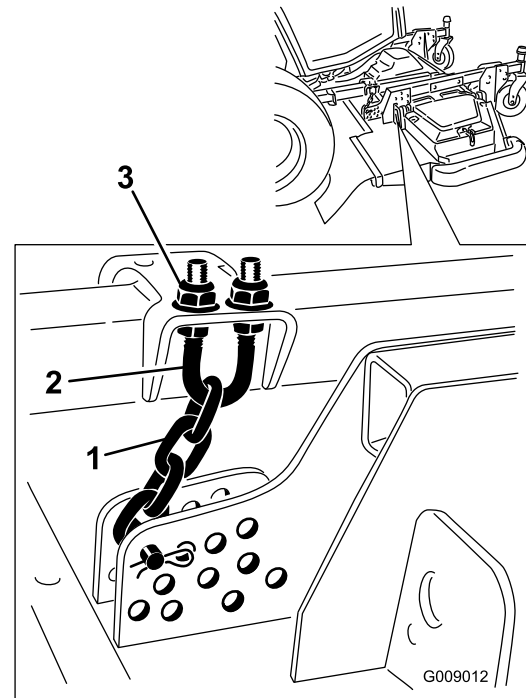

Figure 137
5. Loosen the jam nuts on the top or bottom of the height-of-cut chain U-bolt (Figure 137).